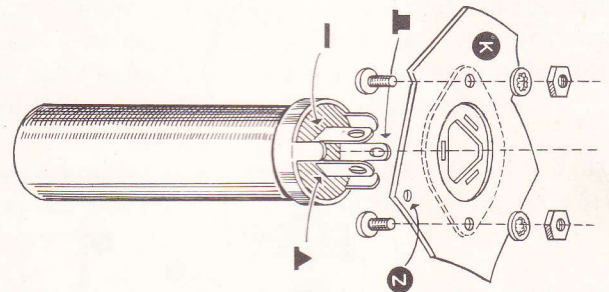

Figure 3
- () The electrolytic filter condenser is mounted on top of the chassis through the wafer already mounted at hole K. The ■ marked terminal must face the holes B and M, as illustrated on Pictorial 1. Refer to Figure 3 to identify the various terminals. Secure the condenser to the wafer by twisting each of the three mounting lugs about 1/8 turn with pliers. Hold the condenser firmly against the wafer while twisting the mounting lugs.